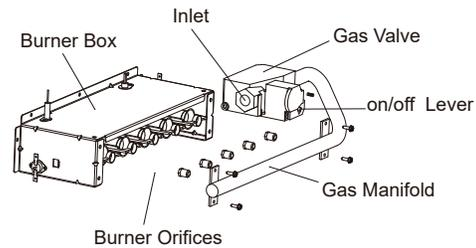

Fig. 8-1 Gas Mainfold Blow-up
See Fig. 8-1.
1. Remove and save two screws holding J-Box. (See Fig. 8-1.)